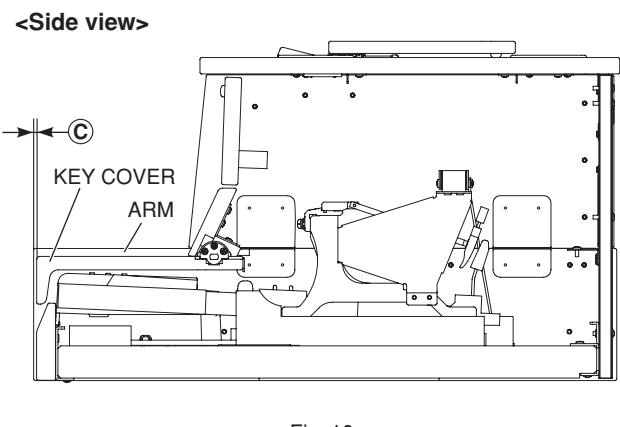

Fig. 10
Standard 2 Make sure that with the key cover closed the difference in level between the front surface of the arm and the front of the key cover is within the standard (especially the difference on the left and right). (Fig. 10)
3.2 mm $\pm$ 2 mm, difference on the left and right within 2 mm (Fig. 10)